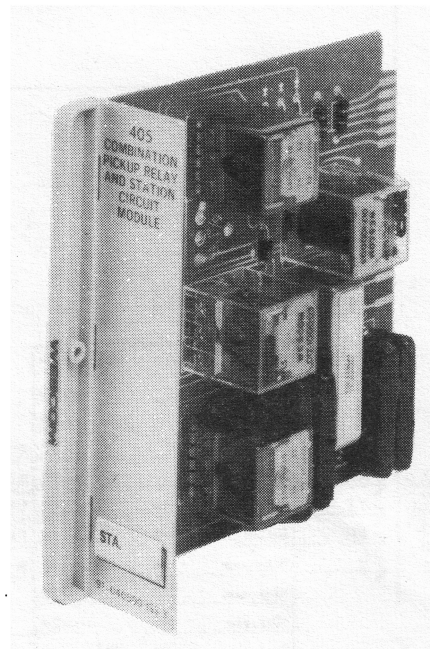

Figure 1. 405 Combination Pickup Relay and Station Circuit
1.01 This Practice provides circuit description, installation procedures, and basic testing information for the Wescom® 405 Combination Pickup Relay and Station Circuit (Figure 1). This Practice has been reprinted to include applications information and a general editorial update.